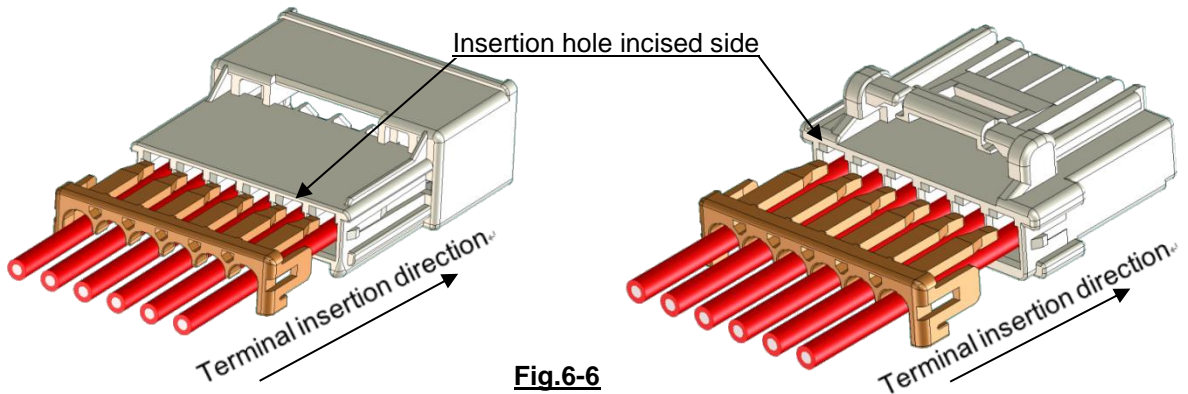
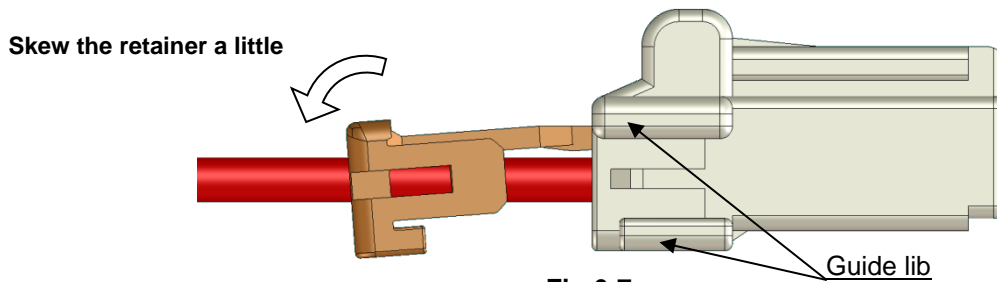

Fig.6-6
Fig.6-7
- ① Hold housing and retainer by pinching right and left side.
- ② Please insert retainer like Fig.6-6. As shown in Fig.6-7, you can be easy to insert retainer due to skew the retainer.
- ③ The lock of retainer follows the guide lib which is shaped on the housing, Please insert retainer into housing slowly and straight until click gets held up completely.